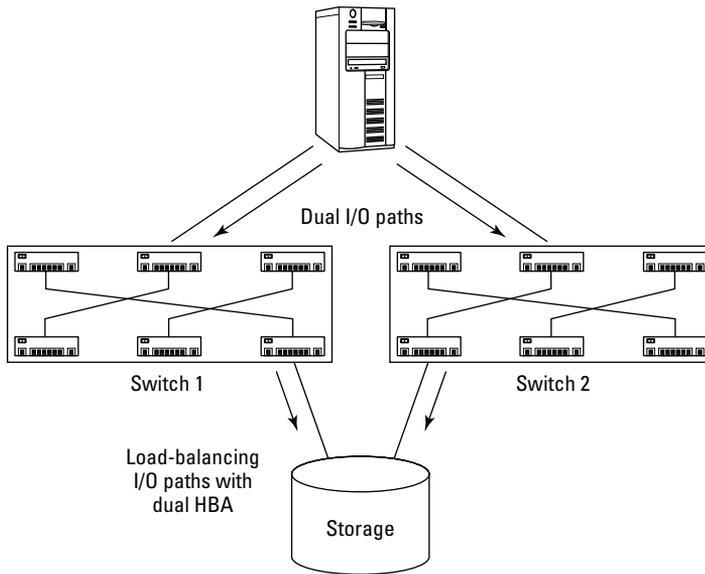

Figure 4-5:
- ✔ **Load balancing** is the capability to use more than one HBA in the server to balance the input/output (I/O) load to your disks. (See Figure 4-5.) Load balancing makes I/O go much faster.